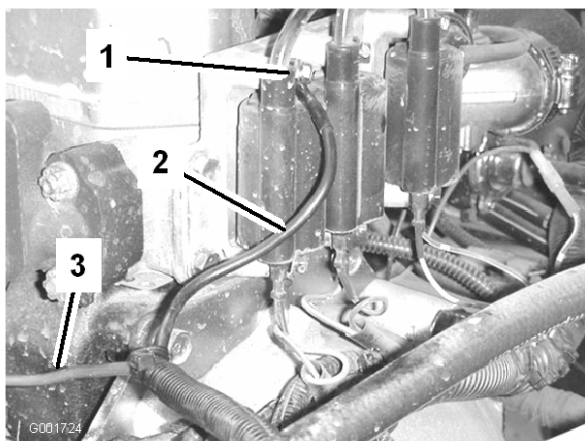

Figure 4
8. Ground the black wire on the wiring harness to the engine using a coil bolt or other suitable ground (Figure 4).